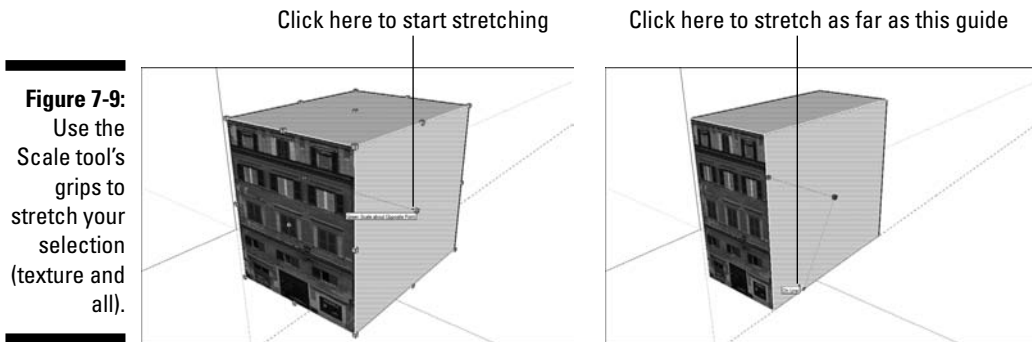

Figure 7-9:
4. Scale your selection to be the right size (see Figure 7-9).